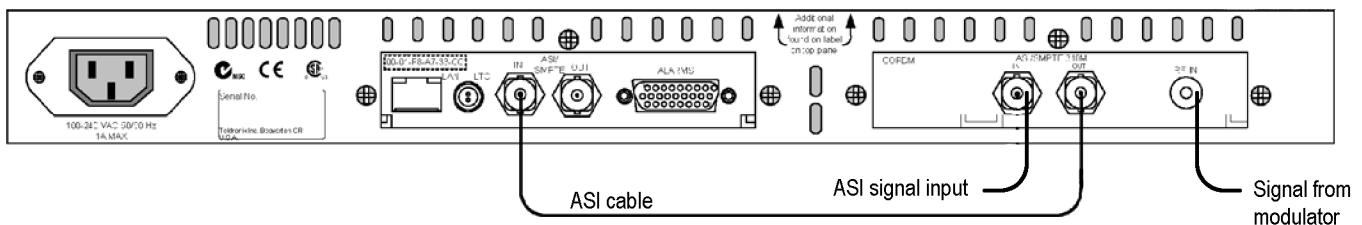

Figure 44: Connecting the ASI cable – QAM (Annex B2), QPSK/8PSK, DVB-S2, 8VSB, and COFDM interfaces
- a. Connect the ASI cable supplied with this kit between the ASI/SMPTE310M Out connector on the interface card and the ASI In connector on the TS Processor card. (See Figure 44.)